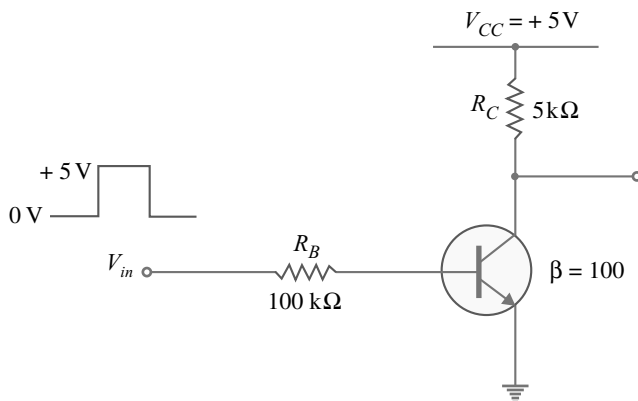

Fig. 16.9
**Example 16.3.** Show that the circuit shown in Fig. 16.9 behaves like an inverter when the input voltage switches between 0 V and + 5 V. Assume that the transistor is of silicon and that  $\beta = 100$ .
**Solution.** Transistor switch is also called transistor inverter. Therefore, in order to verify that the circuit in Fig. 16.9 behaves as an inverter, it is only necessary to show that the transistor is saturated when input voltage  $V_{in} = + 5 \text{ V}$ . Referring to Fig. 16.9, we have,
Since  $I_C > I_{C(sat)}$ , the transistor is saturated. Therefore, we conclude that the circuit of Fig. 16.9 behaves as an inverter.